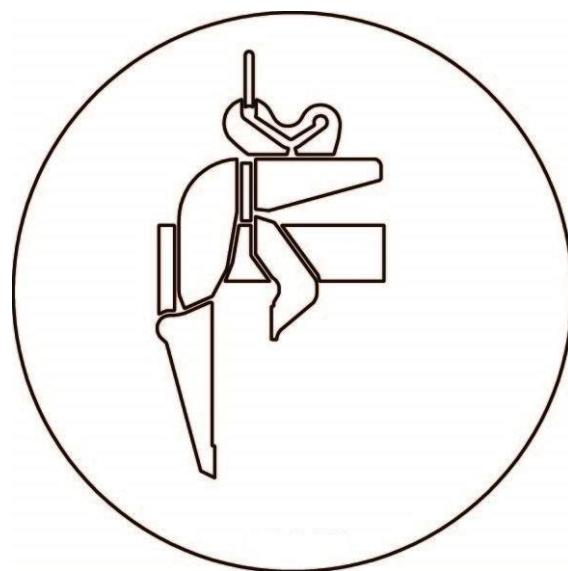

Fig. B1 (empty strike position)
- Take care when lifting the device (WEZ) without gripping good) the automatic release (4) locks into position and therefore the device (WEZ) remains open.
**IMPORTANT:** the lifting eye (1) must be in the rear position of the suspension bracket (2). → Fig. B/Fig. B1